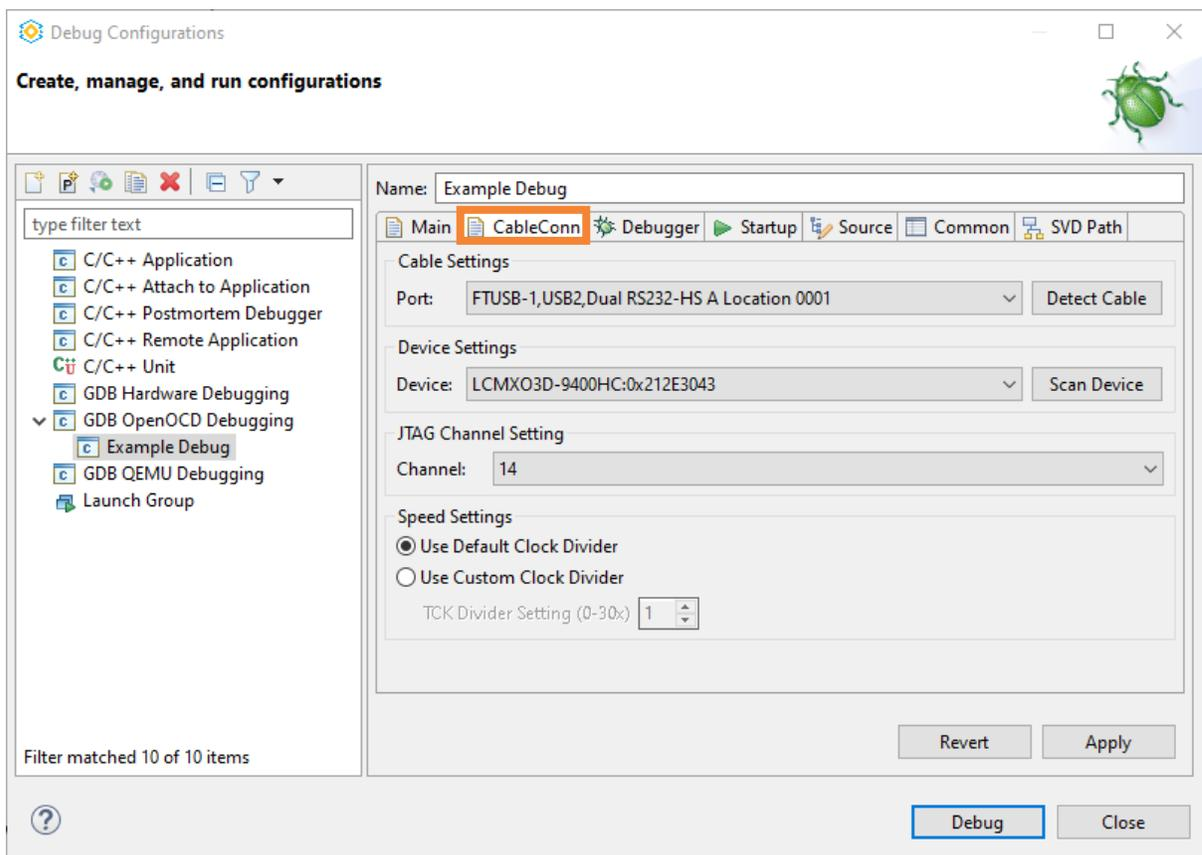

Figure 3.33. CableConn Tab of Debug Configurations
5. Select the **CableConn** tab (Figure 3.33). This tab enables you to select a specific device on a specific cable port.